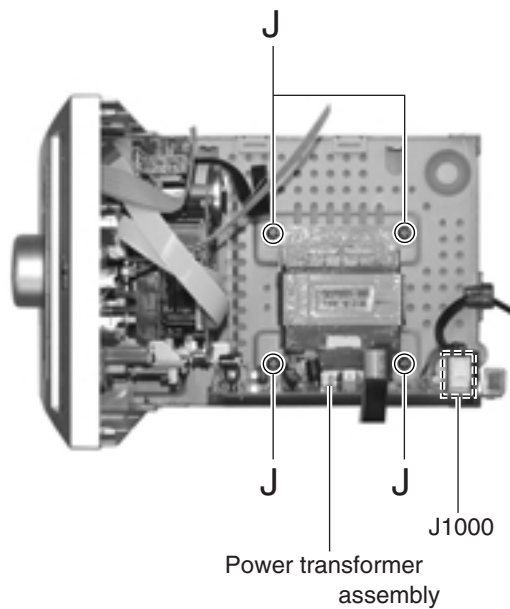

Fig.12
■ Removing the Power transformer assembly (See Fig.12)